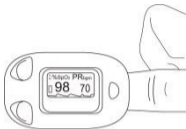

Figure 5 Finger Position
1. The finger should be placed properly (see the attached illustration of this manual, Figure 5), or else it may cause inaccurate measurement.
- 2) Open the clip as shown in Figure 5.